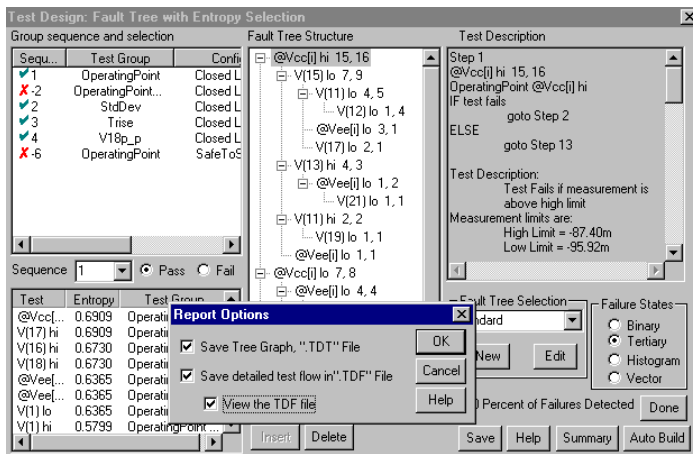

Figure 14, the Fault Tree definition dialog is the heart of the Test Designer system.
4.1) The actual test synthesis and sequencing is accomplished in the Test Designer Fault Tree dialog (figure 14).